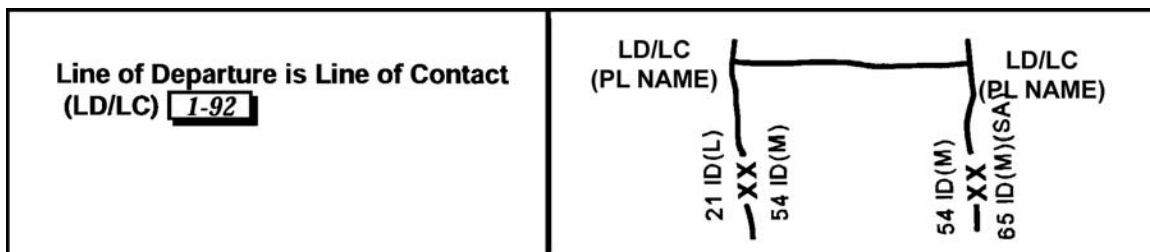

Figure 20. Line of contact.
- (2) Line of contact (LC)(Figure 20).